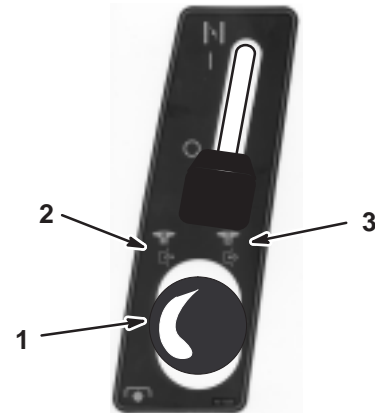

Figure 4
2. Pull the blade control (PTO) out to Engaged (Fig. 4).
2. Push the PTO in to Disengaged (Fig. 4).